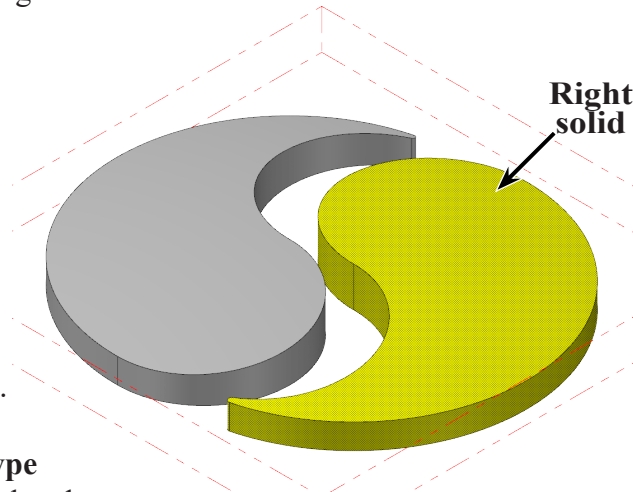

Fig. 52
Step 3. Click the **right solid body** to select as Drive Surfaces, Fig. 52. The solid will highlight when selected.